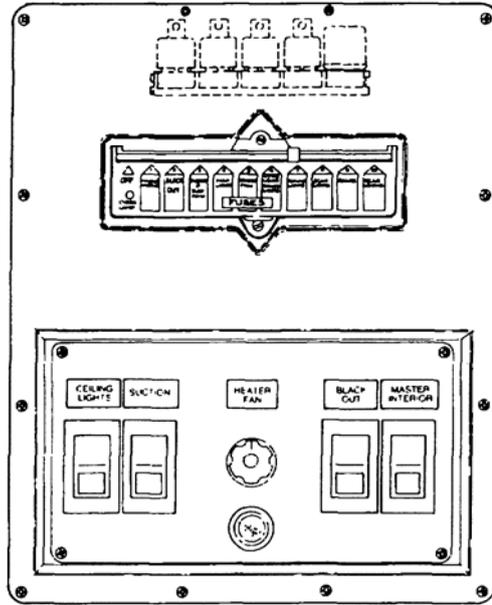

Figure 19 Relay Replacement
- Remove the screws securing the fuse and relay panel to the module (refer Figure 19).